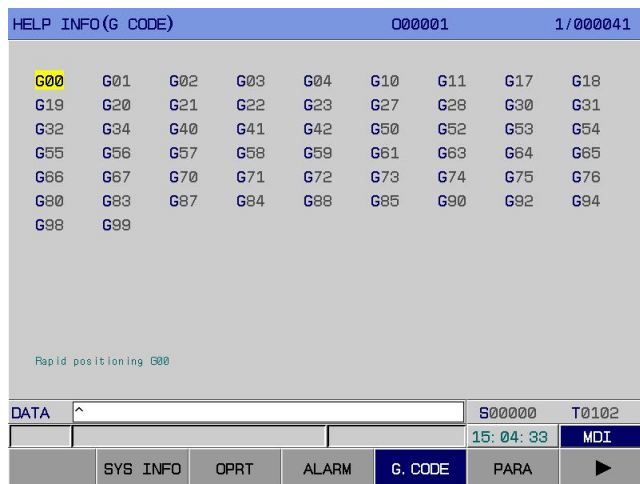

Fig.3-9-4
4. G code table interface: On <Help> interface, press [G Codes] to enter the help information (G code table) interface, as shown in Fig.3-9-4:
G code interface introduces the definition of each G code used by system. Select a G code to be viewed with cursor, and you will see its definition at lower left of interface, as shown in Fig.3-9-4. For